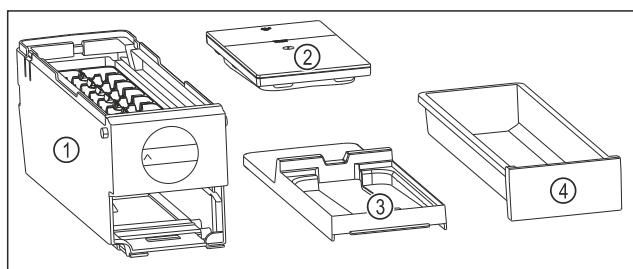

Fig. 160 Components of the EasyTwist-Ice
- ▶ EasyTwist-Ice is dismantled into four parts. (see *Fig. 160*)
- Only dismantle the EasyTwist-Ice into the components shown. (see Fig. 160)
- Clean the EasyTwist-Ice body *Fig. 160 (1)* as a whole.